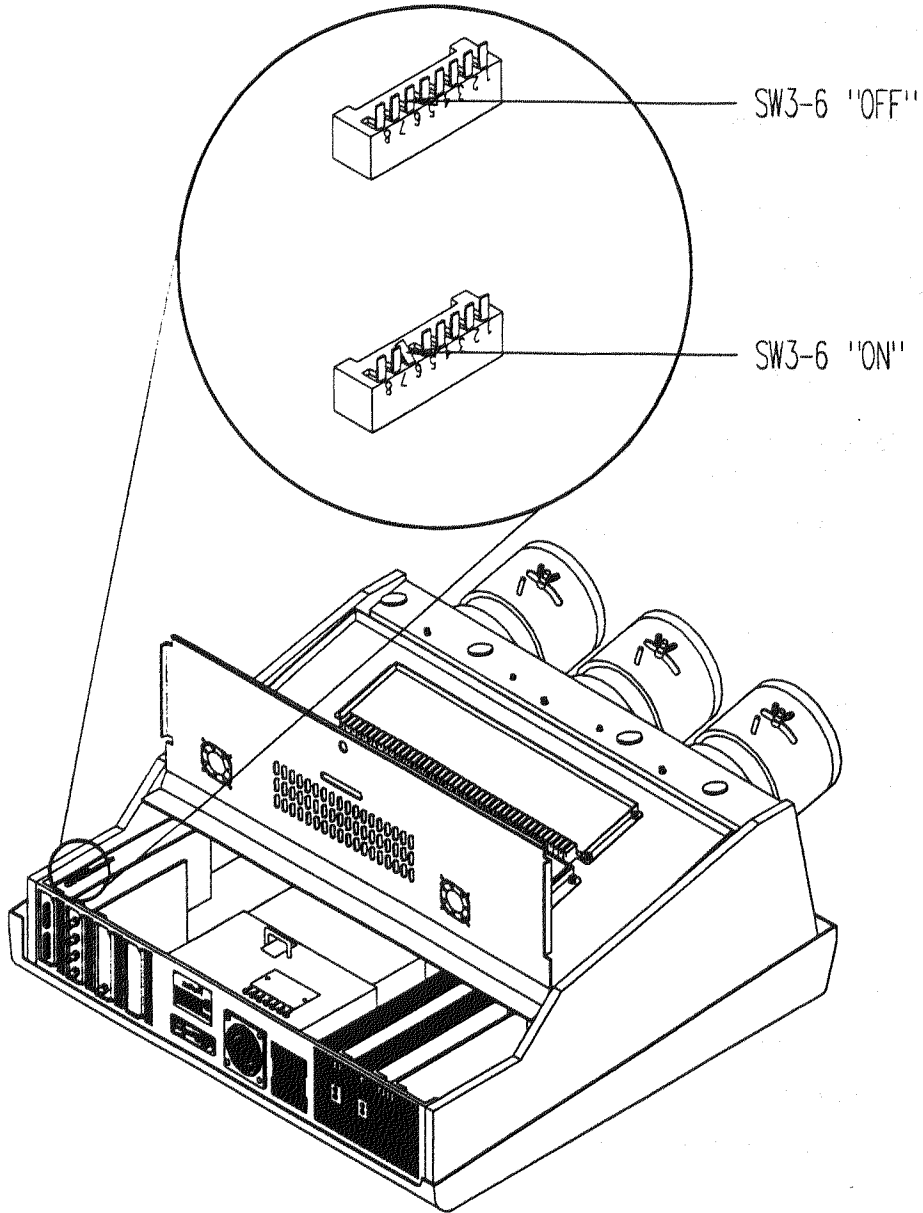

FIGURE 10-10. DIP SW3 position 6 (SW3-6) LOCATION.
- STEP 4. Locate SW3 (8 position DIP) on the CPU module. Switch SW3-6 to the "on" position. Replace the power cord and energize the system. Refer to Figure 10-10